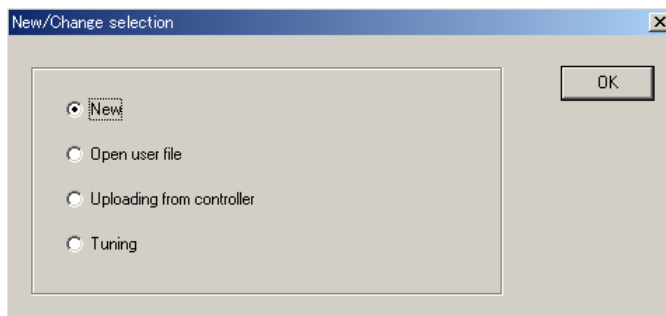

Figure 3.1.3 New/Change Selection Dialog Box
- (6) Select a controller model and click **OK**.
- (7) The New/Change Selection dialog box appears (Figure 3.1.3).